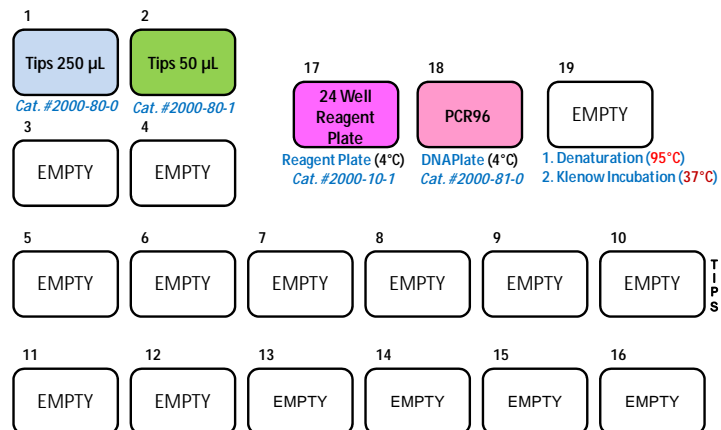

Figure 1. Deck layout for 32 labeling reactions.
1. Ensure that all labware is placed correctly on the ArrayPrep® instrument (Figure 1). Place a container for used tips on the bench adjacent to position 10 (Figure 2).